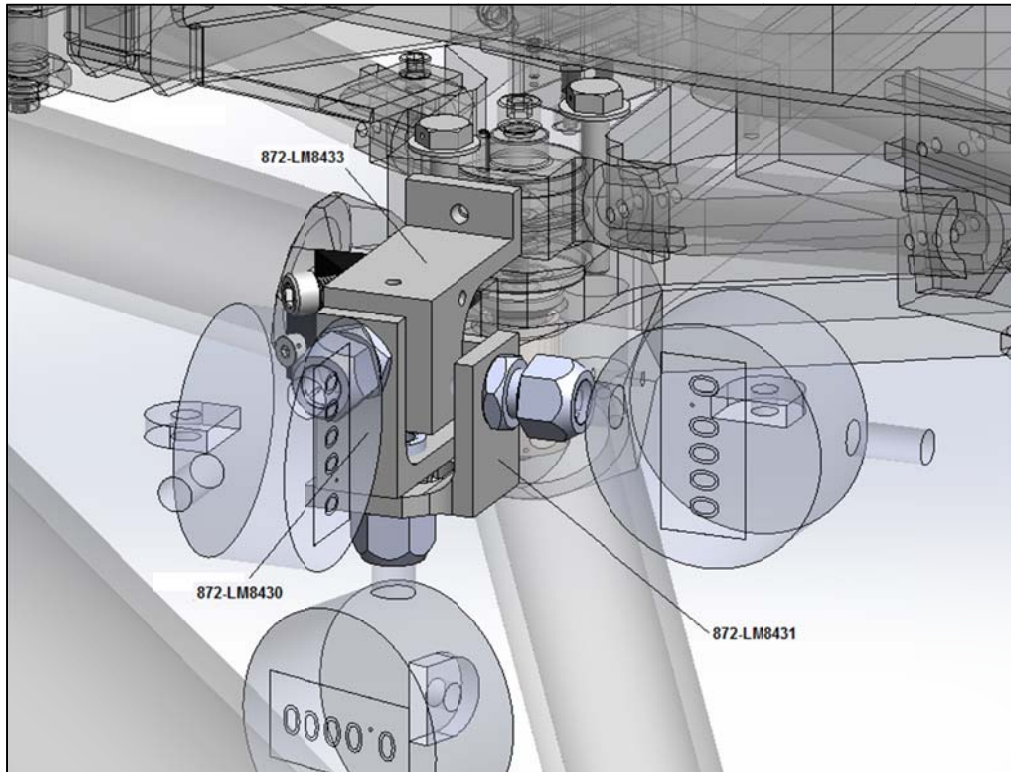

Figure 7 – Indicator mounts for the adjustments at the off-axis kinematic locations. Orientation at the opposite location will most probably be symmetric.
- 3.1.3 Indicators may be used to make all these adjustments. Mounts have been made to set these indicators to keep in place until adjustments are complete. Figures 7 and 8 show the mounts at their respective positions at the side and on-axis kinematics.